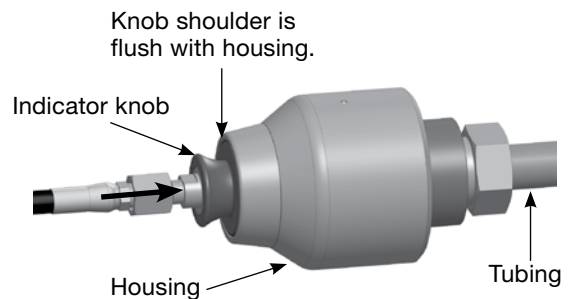

Fig. 2 Indicator Knob in Swaging Position
5. Push the **indicator knob** forward until it snaps into place. The **knob shoulder** should be flush with the hydraulic housing. See Fig. 2.